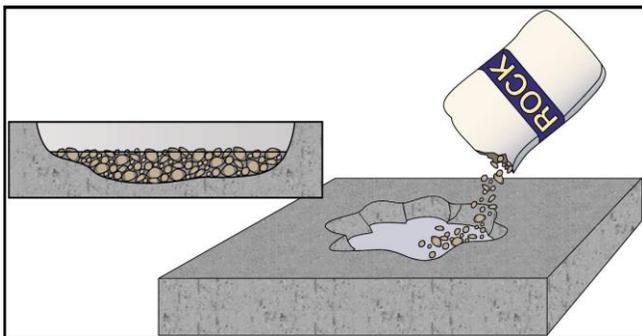

Figure 3
**ElastoFil 75** can be installed by hand mixing and pouring or through the use of a plural component pump system capable of dispensing a 1:1 ratio material, such as the CONDOR Specialized Pump System, manufactured by GatorHyde. The product can also be applied using either pneumatic or manual, 600x600ml caulking guns. In concrete spalls in excess of 2" in depth, 3/4" or 1/2" washed aggregate may be used as a filler to reduce material consumption and create higher compressive strengths. **Figure 3** shows pre-washed rock being poured into the **ElastoFil 75** which has already been poured into the spall. The picture on the left in **Figure 3** shows the rock at the level of the material. **Note!** "Because of the rapid cure time of this product, **ElastoFil 75** should be poured in shifts, especially where spalls are deep. Once material has been poured into spall, immediately pour in aggregate till flush with the surface of the material."